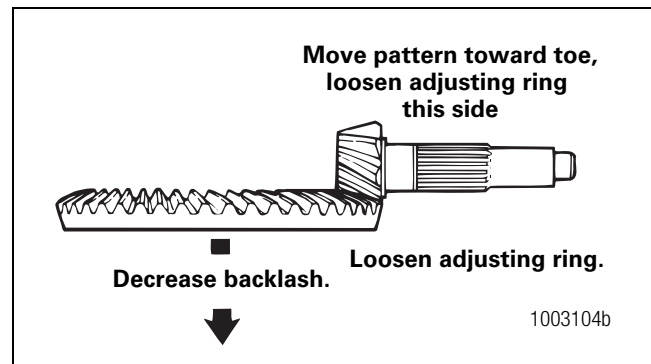

Figure 5.75
- B. Increase the backlash to move the contact patterns toward the heel of the ring gear teeth. Figure 5.75.